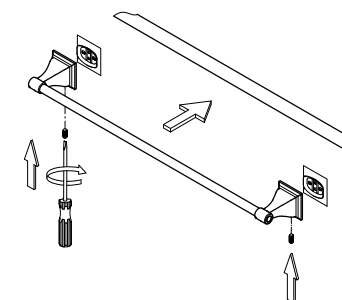

Fig. 6
- Step 6. Place the unit, with the small hole in the base underneath, over the mounting plate by tightening the slotted set screws with a flat head screwdriver until the base is tightly fixed (Fig 6).